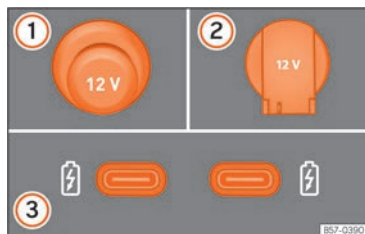

Fig. 133 12 volt power socket: (1) in the centre console, (2) in the luggage compartment. The USB power socket is located at the rear of the centre console (3).
- Remove the cover from the socket, located on the centre console »» Fig. 133 (1).
- Lift the power socket cover »» Fig. 133 (2).
These USB ports are located in the rear part of the centre console, between the front seats »» Fig. 133 (3). These connectors can work at a maximum power of up to 10.5 W per port.